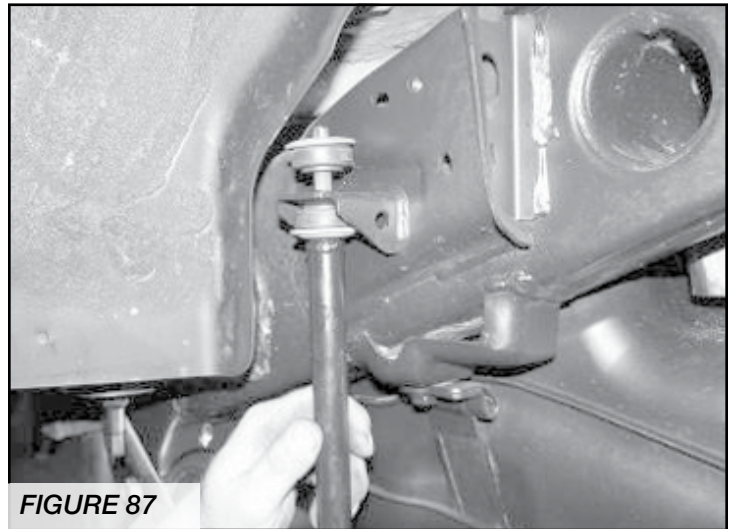

FIGURE 87
55. Locate FT70090 Sway Bar End Links and FT50116 Bushing Kit. Using an arbor press, press an hourglass bushing and sleeve into the barrel end of the links. Install a cup washer and flat bushing on the stem of the end link and install into the mount on the frame. Place the other bushing and cup washer and supplied 3/8" fine thread nut on the top of the link and leave loose. **SEE FIGURE 87**